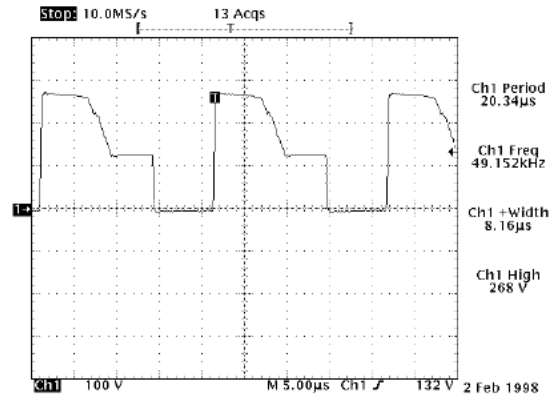
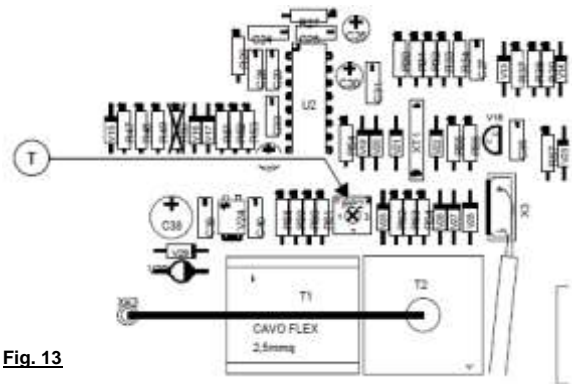

Fig. 12
Fig. 13
- Set the regulation knob to the center of the scale, switch on the generator, turn the knob to the maximum welding current and read with the ammeter the maximum current indicated on the technical table with +/- 5% tolerance. Moreover look on the oscilloscope, connected as in point 2 of the locating faults procedure, for a wave form as in Fig. 12.
- If the current readings differ, adjust the trimmer T (Fig. 13) till the correct current value is obtained (Fig. 12).